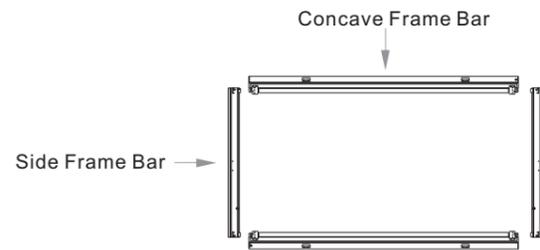

figure 1
1. Put the fixing lug into the slots of top and bottom bars, taking the following table as reference (figure 1).